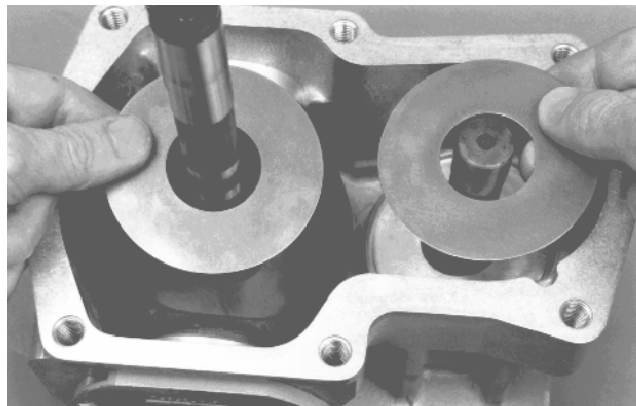

Figure 48
9. Use O-ring pick or wire to remove thrust plates from swashplate and housing (Fig. 48).